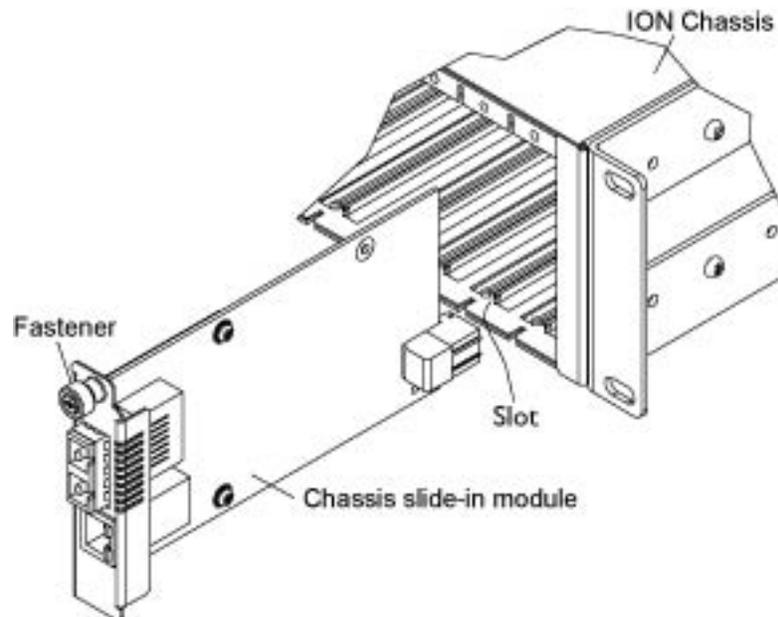

Figure 1: Chassis Installation
5. Push in and rotate clockwise the panel fastener screw to secure the card to the chassis (see “Figure 1: Chassis Installation” on the previous page).